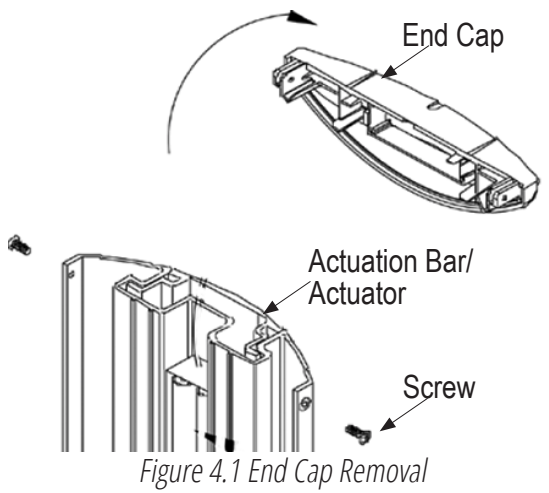

Figure 4.1 End Cap Removal
1. Unpack the pre-assembled unit from the box. To mount the switch, it is required to disassemble a few components. Firstly, remove two Phillips screw holding the top End Cap in place. Once both screws are removed, take out the cap. (Figure 4.1)
2. Carefully pull out the actuator and place it aside so as to protect it from any surface damage. (See Figure 4.1, 4.2 and 4.3 for reference.)